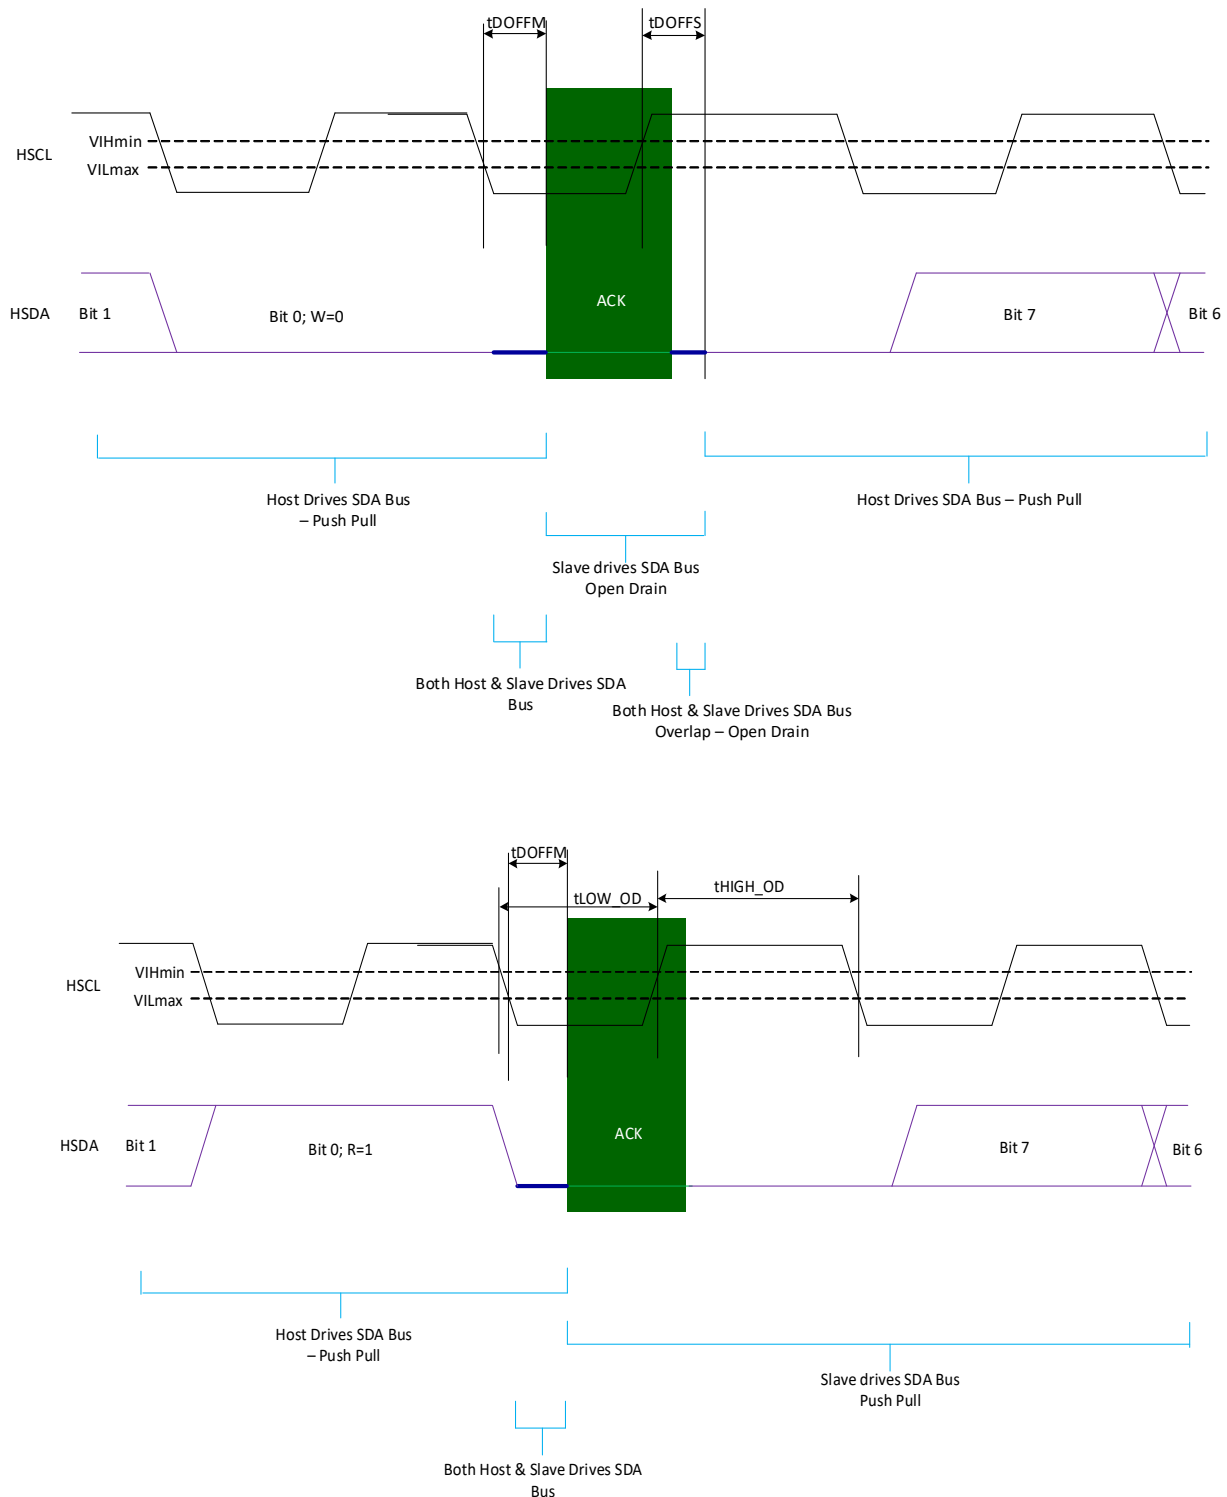

Figure 15. Master Push Pull to Slave Open Drain Hand Off Operation
- Figure 15 shows how the transition occurs from Host Push Pull Operation to Slave Open Drain (ACK).